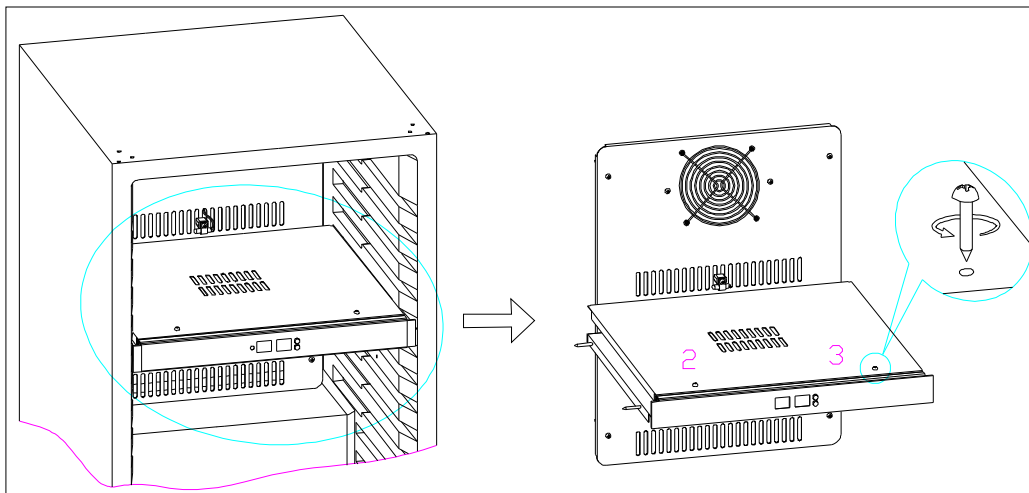
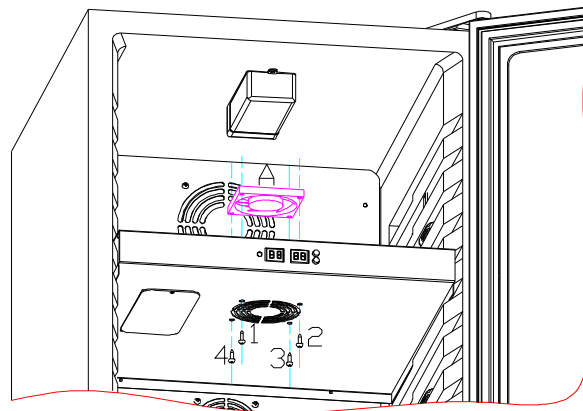

Fig.10
Fig.23
See (Fig 10)
2). Regarding the new structure electrical box, only remove the up cover of middle upper air-duct board(Fig.10), and remove the screw(1, 2, 3, 4), and remove the air cycling fan and replace with a new one(Fig.23).